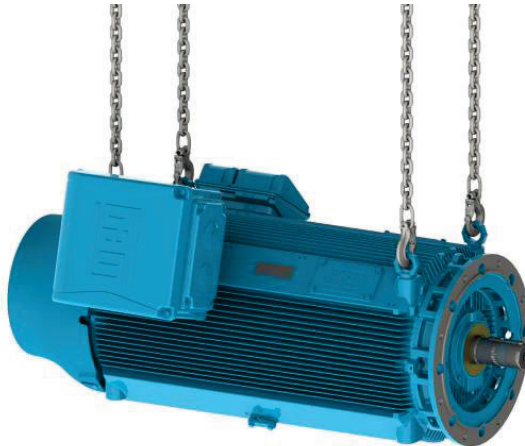

Figure 17 - Lifting of HGF, W50 and W51 HD motors with two hoists
1. Lift the motor by using the four lateral eyebolts and two hoists, see Figure 17;